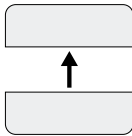
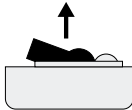

Fig. No. 57
Fig. No. 58
2. Detach the front side of the enclosure by pulling the front side up (see Fig. No. 57)
4. Remove the plastic tab inserted between one of the battery terminals and battery slot contacts (see Fig. No. 58).
6. Close EW1B enclosure (see Fig. No. 57, Fig. No. 58)